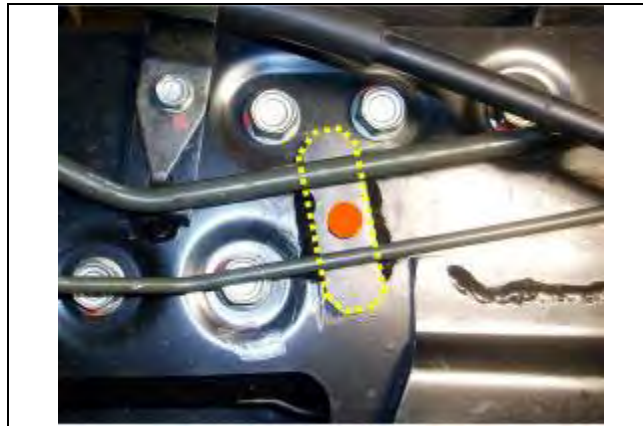

Figure 63
20. Using a 1/4" drill bit, drill a hole in the frame through the passenger side reinforcement bracket brake clip mounting hole. See Figure 63.
22. Locate the 1/4" hole drilled in Step 19. Use the 33/64" drill bit and final drill this location. Mark this location with tape or chalk. This hole is required to provide clearance for the passenger side brake pipe clip. See Figure 63.